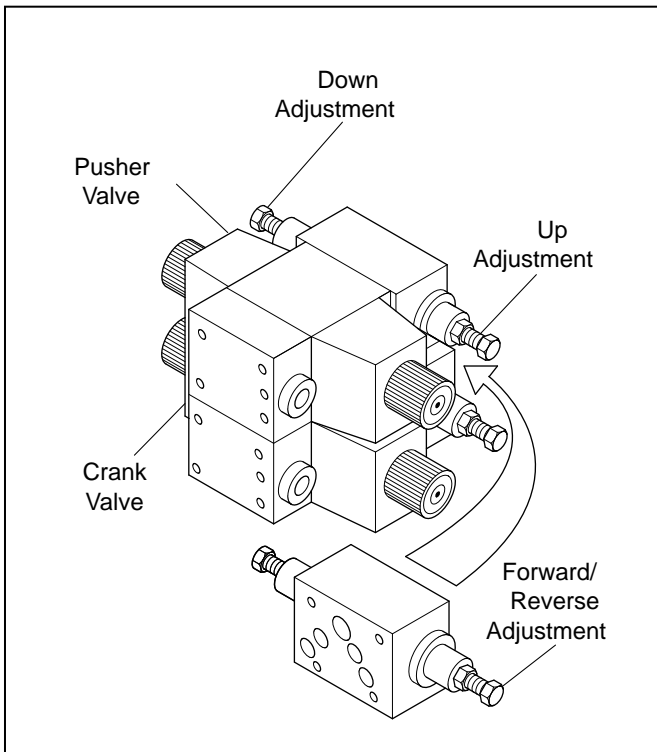

Figure 3.5 Hydraulic Flow Controls
1. Turn the crank arm drive flow control valve clockwise to decrease the speed and counterclockwise to increase the speed. Refer to Figure 3.5. The forward/reverse motion should be set to obtain a five-second cycle.
2. Turn the pusher plate up flow control valve clockwise to decrease the speed and counterclockwise to increase the speed. Refer to Figure 3.5.
3. Turning the pusher plate down flow control adjustment clockwise to decrease the speed and counterclockwise to increase the speed. Adjust the pusher plate down motion so it takes one-half second to fully lower the pusher plate. Refer to Figure 3.5.